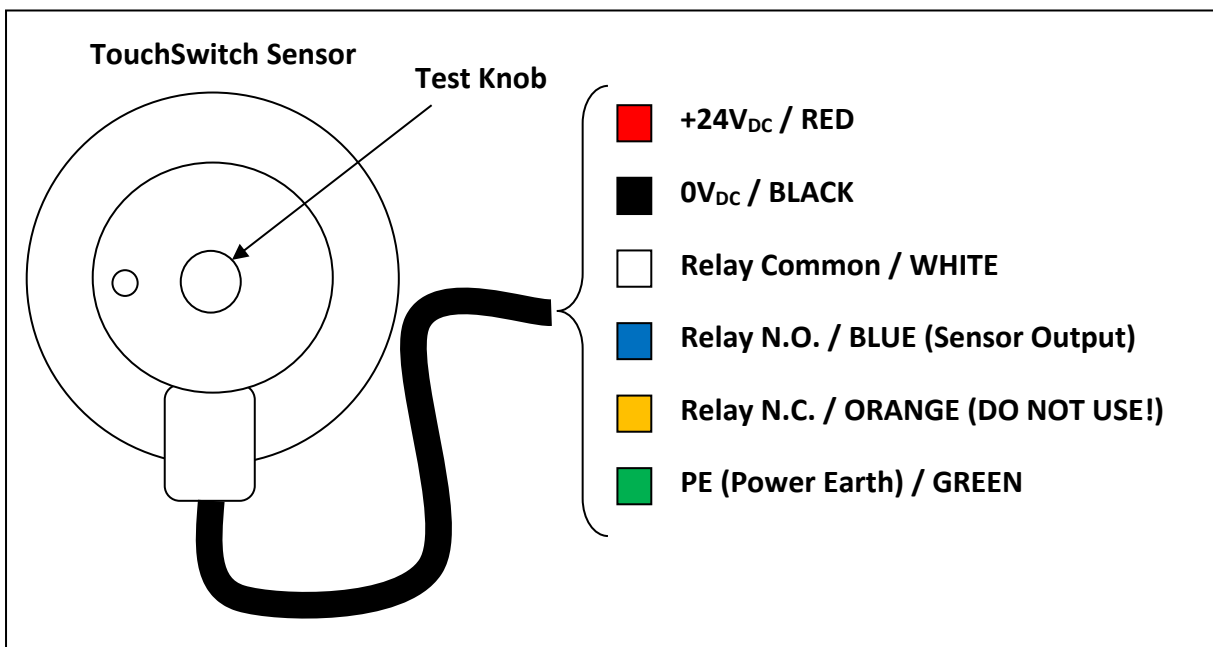

Figure 7 – TouchSwitch™ Electrical Connection
- 2) Slowly turn the test knob (see Figure 7) clockwise by hand, until the LED goes OFF